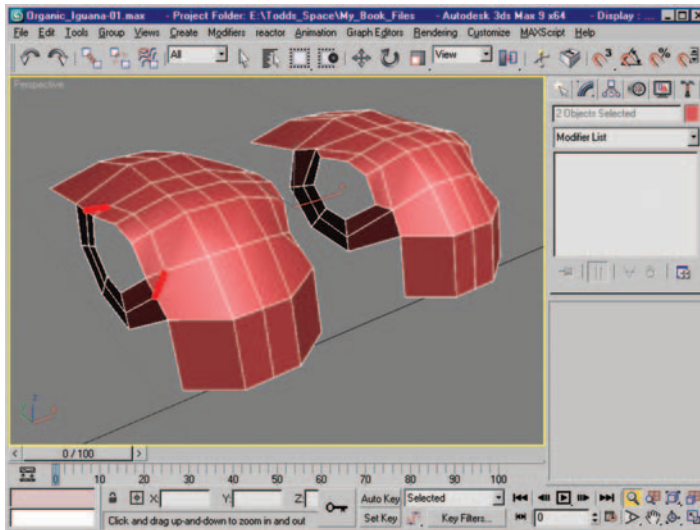

Figure 9.12 Edge selection and resulting loop after using Collapse on the edge selection. The mesh is once again all Quad polygons.
12. In step 11 a new edge loop was created, but the Chamfer function also created two new Tri N-gons. To remedy this, select the edges shown in Figure 9.12, and use Collapse to restore an all-Quad mesh.